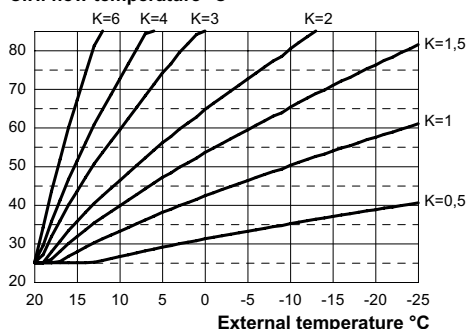

Fig. 8.6
If the boiler is **EQUIPPED** with the remote control (optional) refer to Fig. 8.6. In this case K setting must be done from the remote control.
The K coefficients is a parameter that increases or reduces the boiler flow temperature when the outside temperature changes. When installing the external probe it is necessary to set this parameter based on the efficiency of the heating system in order to optimise the flow temperature (Fig. 8.6).
E.g. In order to have a flow temperature at the heating system of 60°C with an external temperature of -5°C, set a K at 1.5 (sectioned line in Fig. 8.6).
- Using keys 17 or 18 it is possible to change the value of parameter 15 from a minimum of **01** to a maximum of **60** based on the selected bend of the K coefficient in Fig. 8.6 (the value read on the display corresponds to K coefficients decimal values).